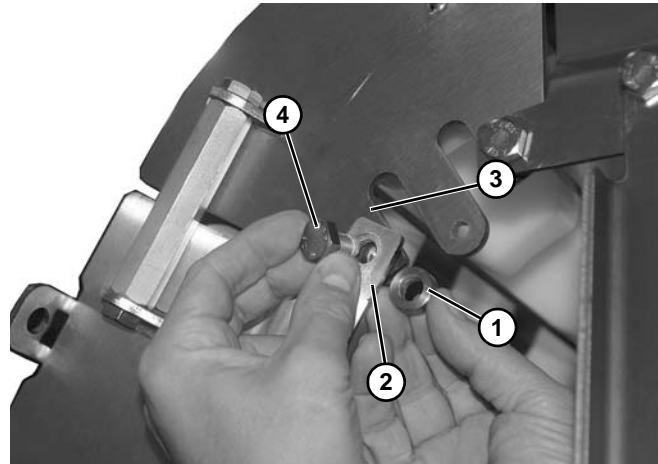

Figure 8
2. Install spacer (Figure 8, item 1) between frame (Figure 8, item 2) and upper knuckle plate (Figure 8, item 3). Secure with screw (Figure 8, item 4).